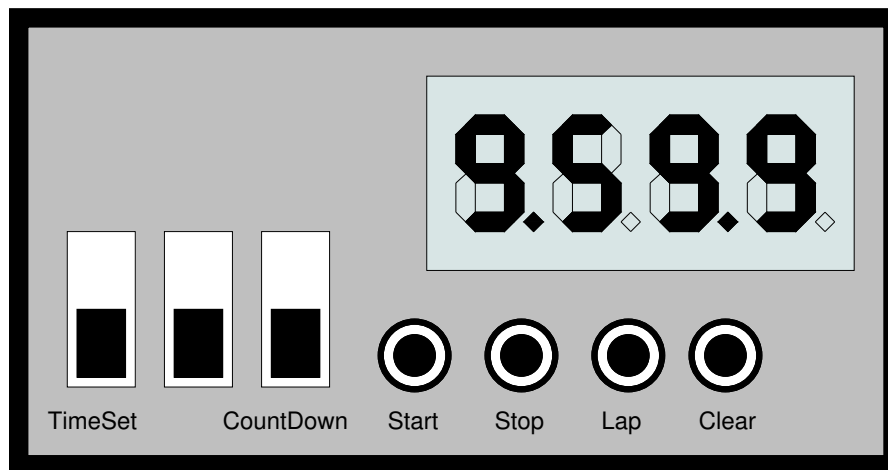

FIGURE 10.1 User Interface Elements of the Stopwatch Design
*The Stopwatch External View:* For the purposes of this lab, our stopwatch functionality can be summarized briefly in terms of the I/O resources available on the Digilent Basys3 prototyping board. Consider the basic user interface diagram shown below in Figure 10.1. The four seven-segment LED displays of the Basys3 will serve to provide stopwatch times 0:00.0 to 9:59.9 (that is, from time zero to time nine minutes and 59.9 seconds). A combination of logic switches and pushbuttons on the Basys3 will provide user control inputs. The hardware clock (100 MHz) on-board the Basys3 shall provide the internal synchronous clocking source `clk` for all machine components, and is the base clock from which a 0.1 second time reference must be derived.